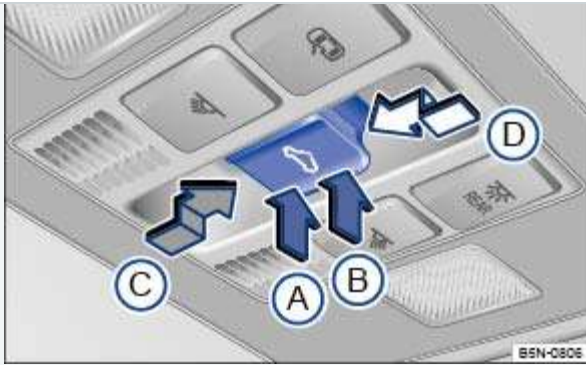

Fig. 38 In the headliner: Power sunroof switch.
The switch ⇒ Fig. 38 has 2 detents for each switch position (A, B, C, and D), which are described in the following table.
| Function               | Action ⇒ Fig. 38                                                                                                                                               |
- Press the  button ⇒ Fig. 38 within about 5 seconds after the sunroof has stopped and hold it in the direction of the arrow  at the second detent until the power sunroof closes completely.